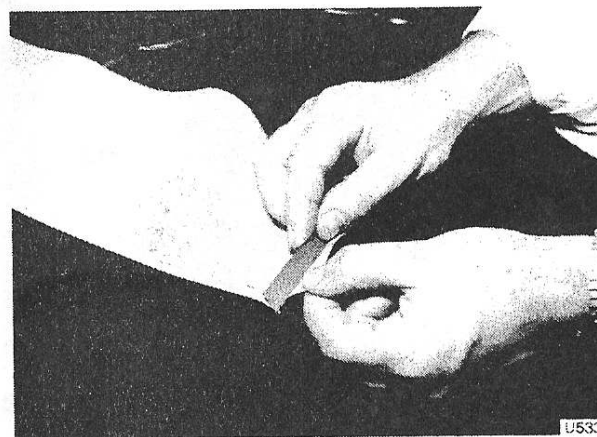

Fig. S115 Fitting a brass strip into a centre panel end pocket
50. Unpick the stitches and cut out two small areas of Everflex from the end pockets of the centre panel (see Fig. S115).
Slide the brass strips inside the pockets and press firmly together (see Fig. S115).